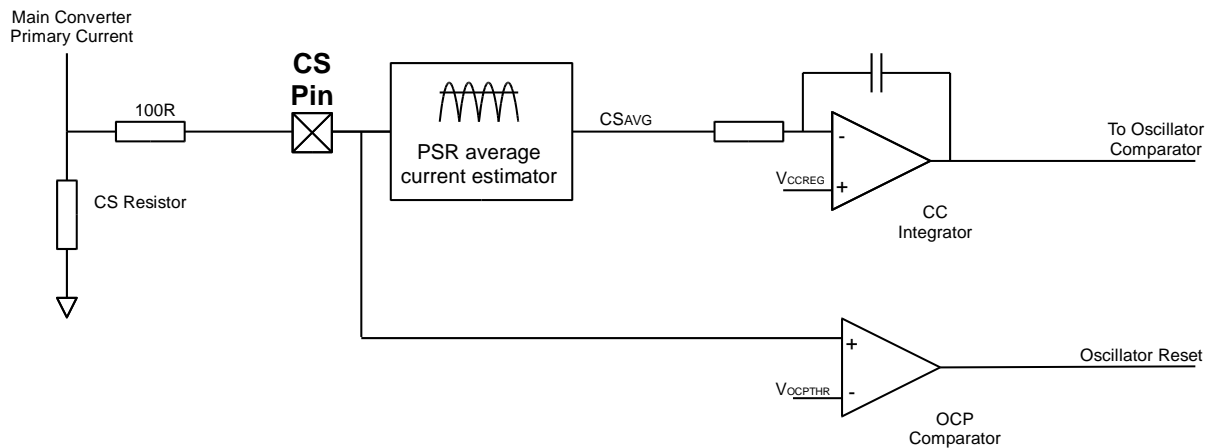

Figure 7: RED2421 Current protection and control circuits
Figure 7 shows the two current control methods used in the converter:
Shown in figure 7 the signal from the CS pin is divided into two different paths. The bottom path provides peak instantaneous over-current protection (OCP) while the PSR Average Current estimation block provides the current regulation (CC) information. The voltage on the CS pin is an AC signal biased around GND. Inside the PSR block this signal is processed to provide a voltage proportional to the average converter output current.
The CC regulation circuit is shown in Figure 7. CC operation is defined by an internally compensated control loop. This provides a system response time of approximately 300us in a typical application. The average current regulation point, V_{CCREG} is pre-set to 150mV, referred to the CS pin.